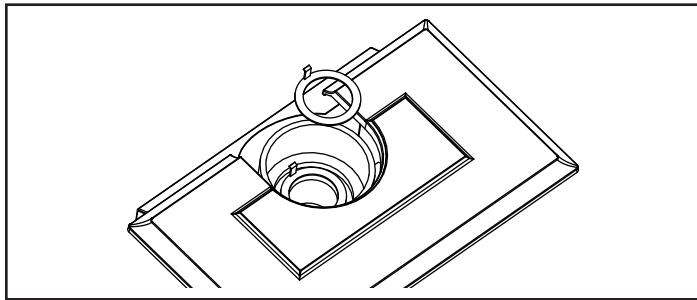

Figure 16 - Install the restrictor plate only if required for the venting configuration.
- 1. Install the Restrictor Plate:** Consult the 'Vent Run Specifications' to determine whether the restrictor plate is needed. If so, put the restrictor plate in place within the inner flue collar as shown in Figure 16.
- Install the Restrictor Plate:** Consult Figure 8 to determine whether the restrictor plate is needed. If so, place the restrictor plate into the inner flue collar. (Figure 16)